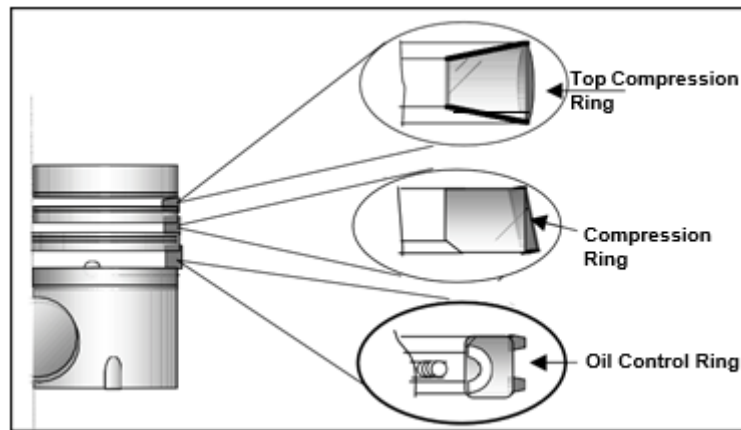

Figure 18
- Install correct rings in their proper sequence (Figure 18).